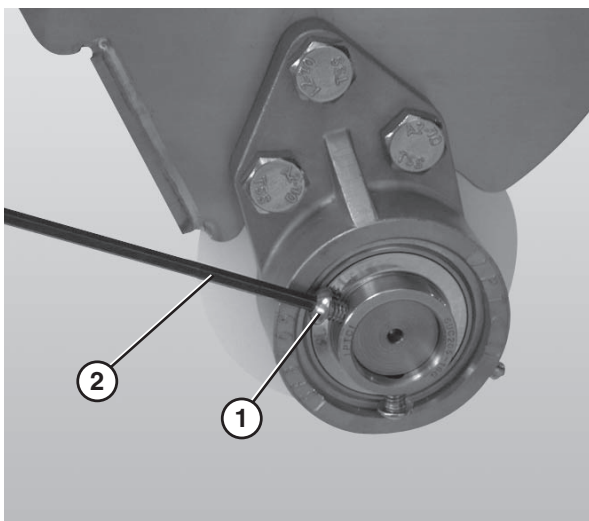

Figure 69
6. Loosen the 3 hole flange (**Figure 69, item 1**) with bearing fasteners using a hex wrench (**Figure 69, item 2**).